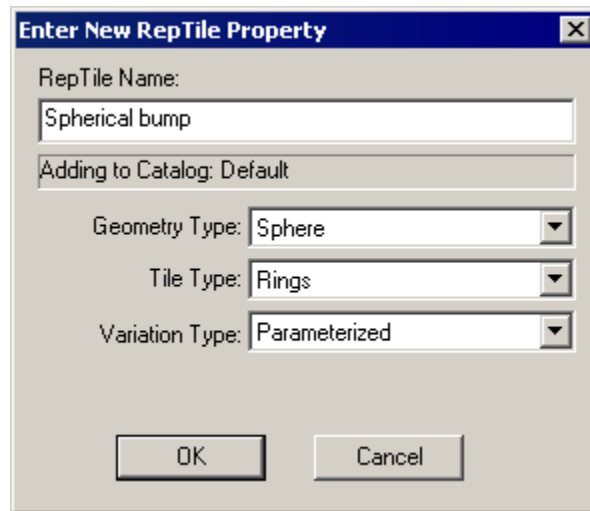

FIGURE 9.22 - Entering a parameterized RepTile property.
6. and click OK. See Figure 9.22.